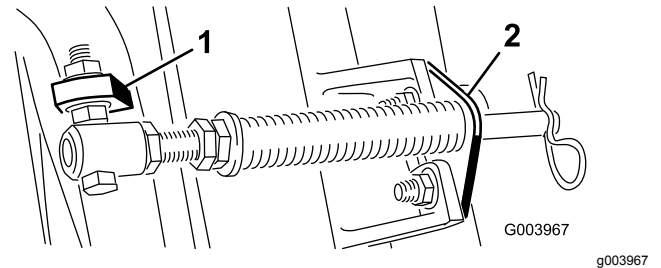

Figure 5
Note: Position the bolt head to the outer side of the tab as shown in Figure 5.
- Mount the rod bracket to the cutting-unit tabs with the carriage bolts and nuts (Figure 5).